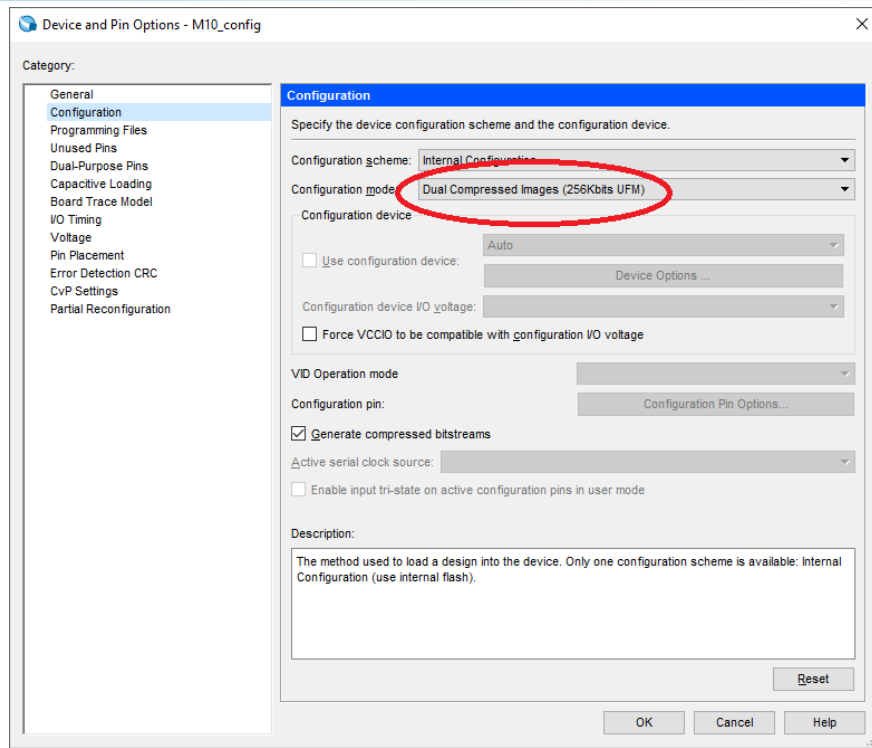

Figure 2-1 Device and Pin Options
2. In the Device dialogue, choose "**Device and Pin Options...**", as illustrated in Figure 2-1.
3. In the Device and Pin Options dialogue, choose Configuration on the left side, and then set Configuration mode to "**Dual Compressed Image...**", as illustrated in Figure 2-1.